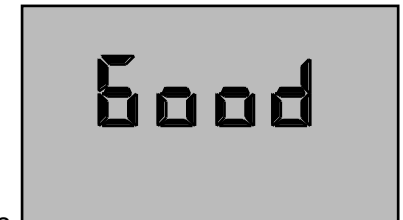

Figure 3
4. Press the **(CAL)** key. If the cell is clean, **"Good"** will momentarily be displayed. Fig. 3.